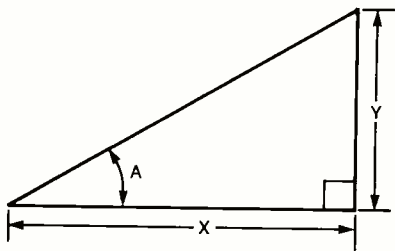

Fig. 4. Arctangent is the angle (A) that corresponds to the ratio of the length (Y) divided by the length (X).
Figure 3 shows how a 74LS00 will act if we assign "LOW" and "HIGH" to the logic levels in its normal positive logic system. Figure 4 shows how that same gate will act if we do the same thing in a negative logic system.
Fig. 4. A 74LS00 chip operates as a NOR gate if it is used in a negative-logic system. It is very important to note that even though the assignment of LOWs and HIGHs are reversed, Vcc and ground connections to the 74LS00 chip remain the same whether in a positive- or negative-logic system.
Arctangent is defined as the angle (A) that corresponds to a specific ratio created by dividing the length of the side opposite the angle (Y) by the length of the side adjacent to the angle (X). An Arctangent diagram is shown in Fig. 4. Arctangent literally means “the Arc (angle) of the Tangent (Ratio).”